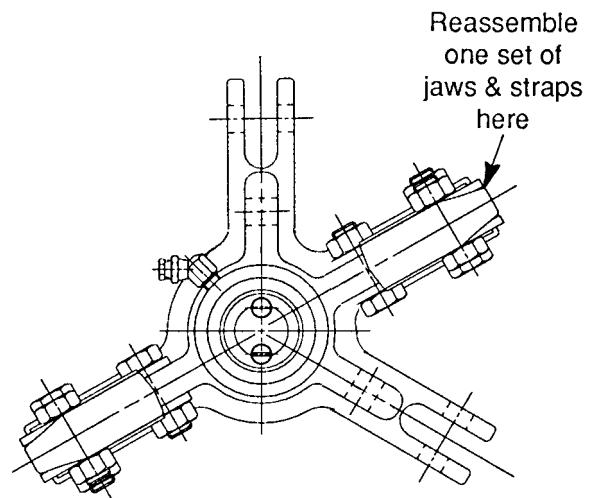

FIGURE 5
2. Reassemble one set of jaws and straps as shown in Figure 5.